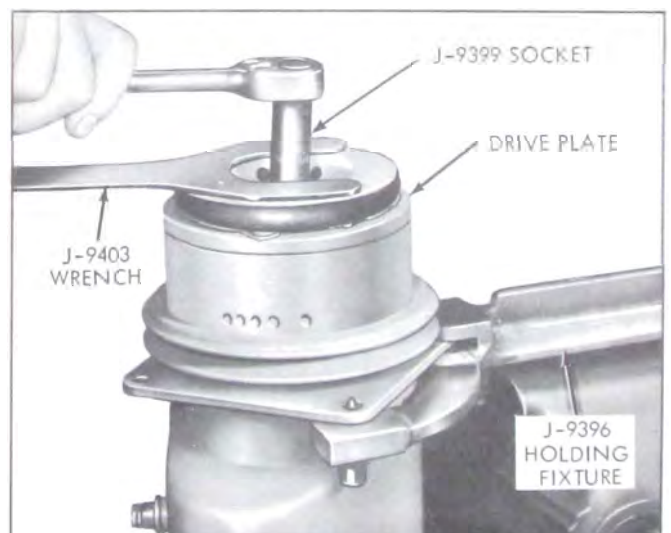

Figure 11-37—Removing Shaft Nut
NOTE: For the following procedures, firmly clamp holding fixture J-9396 in vise and attach compressor assembly to fixture. See Figure 11-37. Holding fixture J-9396 will be modified from one shown in Figure 11-37, but its use will be the same.
1. Hold the clutch drive plate hub with J-9403 wrench and use J-9399 special thin wall 9/16" socket to remove shaft nut. See Figure 11-37.
1. Install a new seal seat O-ring in its groove inside front head. Be sure it is not in retaining ring groove. See Figure 11-37.